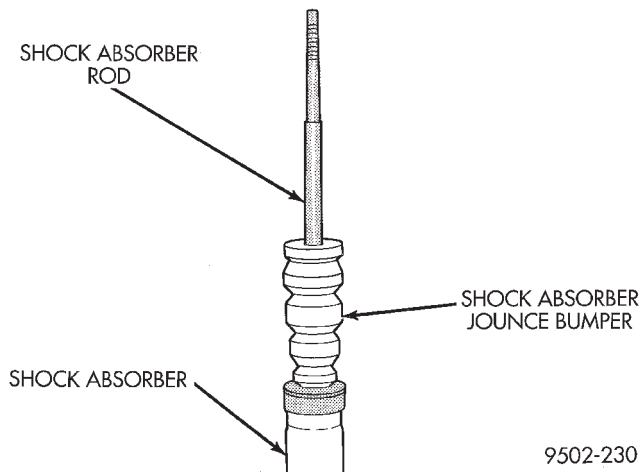

Fig. 51 Jounce Bumper Installed
(7) Install the jounce bumper as shown on the rod of the shock absorber (Fig. 51).